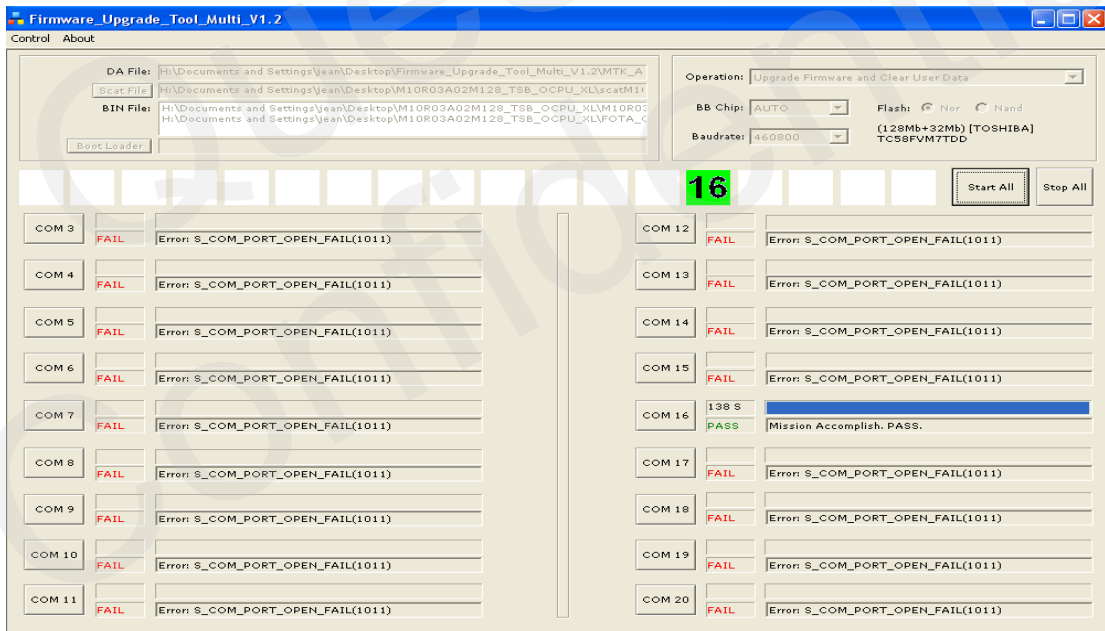

Figure 6: Finish upgrading
- h) Click the “Start All” button and push the fixture down, the tool will start to download software. When downloading is complete, the tool will prompt “PASS” or “FAIL” as figure 6 for com port connected with fixture.